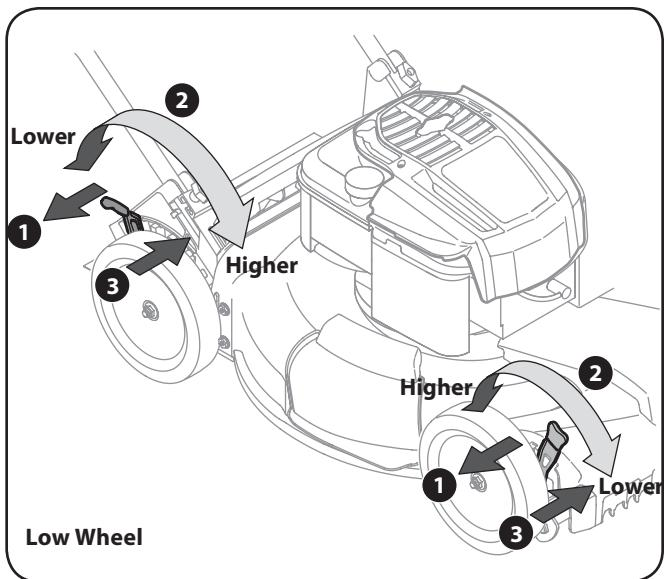
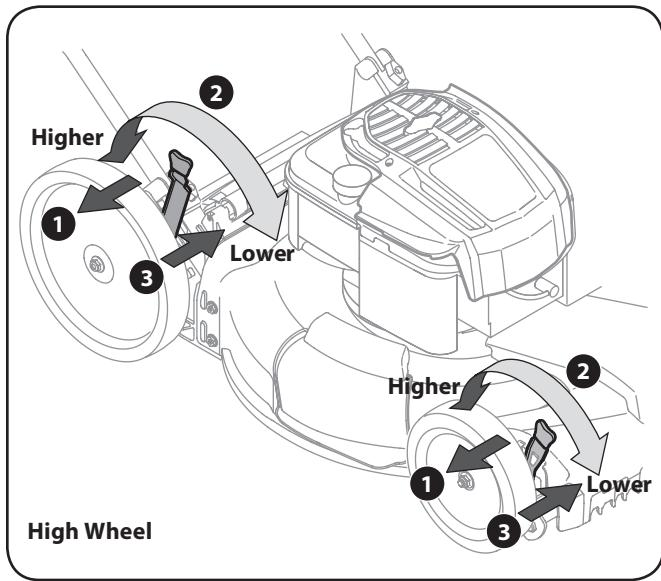

Figure 3-10
Figure 3-10A
- Move lever to desired position for a change in cutting height. See Fig. 3-10 and Fig. 3-10A.